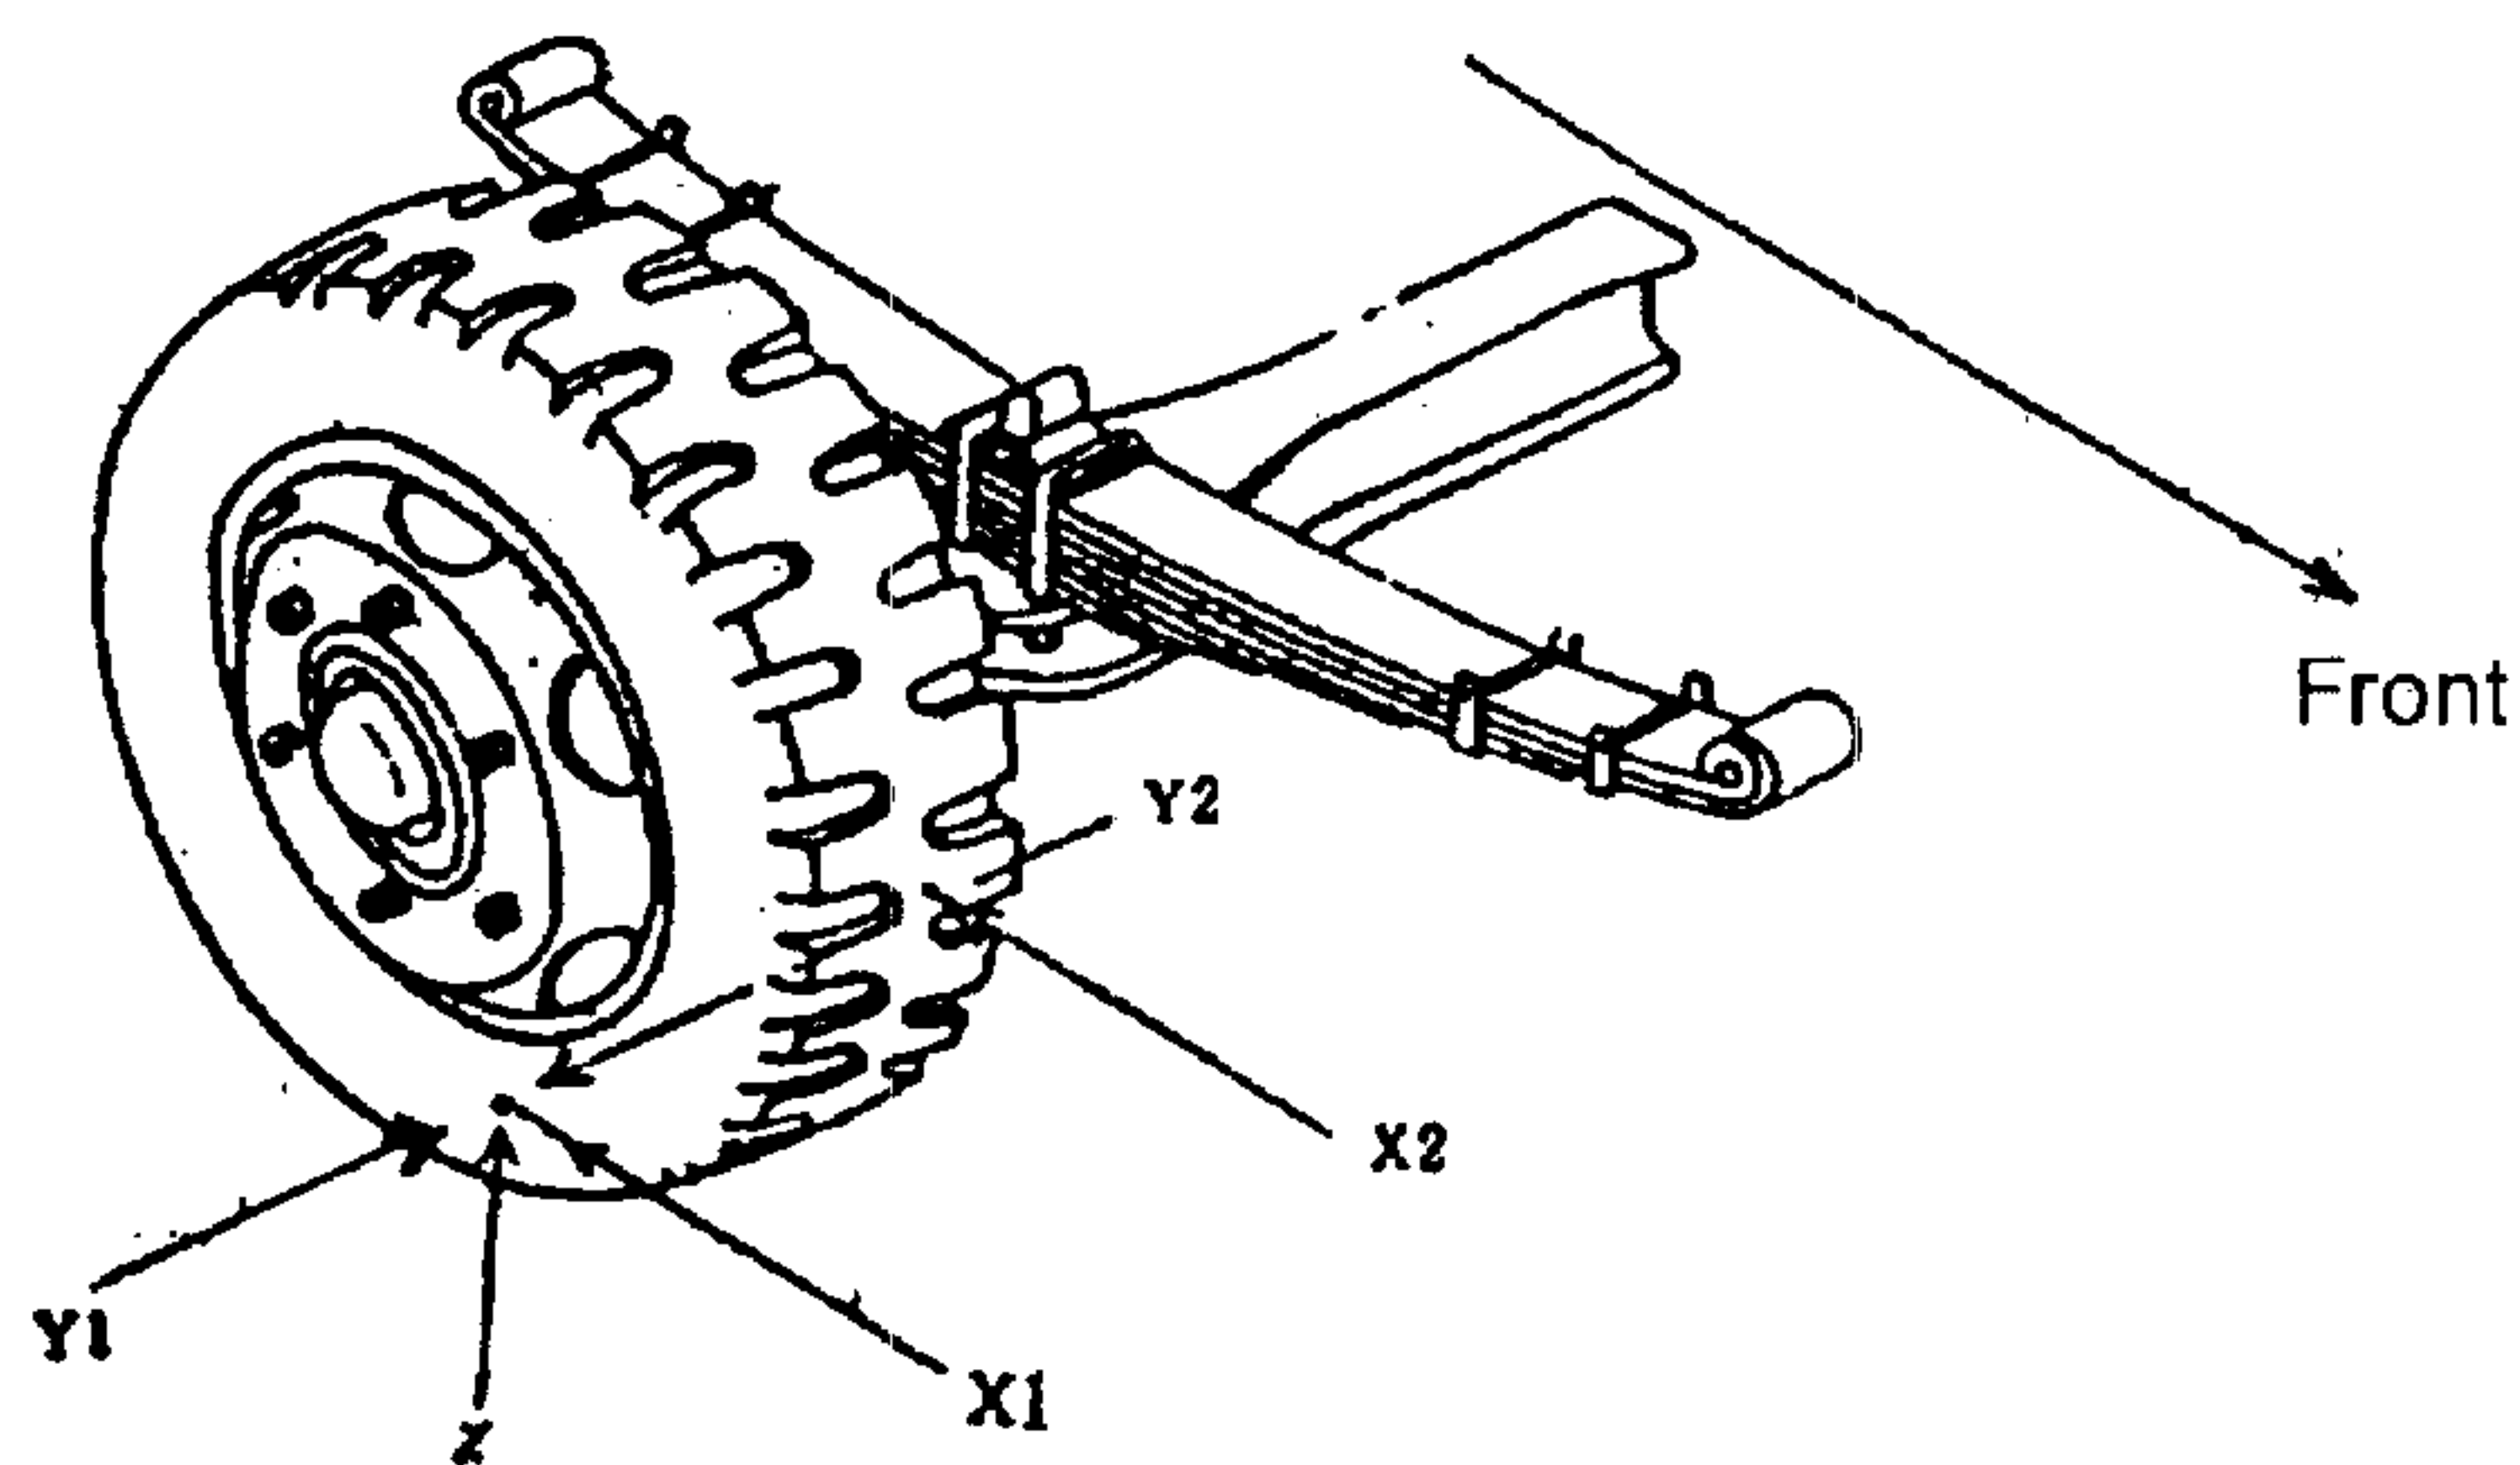

Figure 1
- (1) Up and down direction rigidity test : Applying the load z on figure 1.
- (2) Front and back direction rigidity test : Applying the load $X1$ (Braking load), $X2$ (Load when sequence crashing).
- (3) Left and right direction rigidity test : Applying the load $Y1$ or $Y2$.